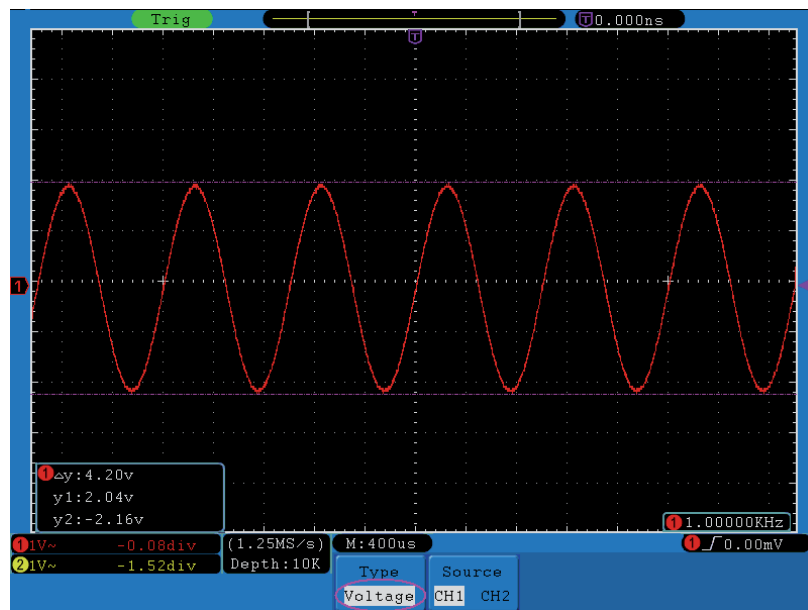

Figure 66. Waveform of Voltage Cursor Measurement.
- 4 According to the measured waveform, adjust the positions of Cursor1 and Cursor2 by turning the **VERTICAL POSITION** knob of CH1 and CH2. Cursor increment window at the left bottom of waveform shows absolute value of D-value of cursor 1 and cursor 2 and the present position of the two cursors. (See Figure 66).